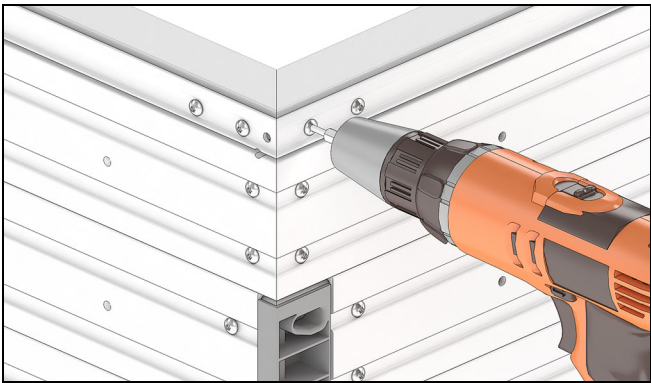

Figure 46
5. Tighten the jamb screws you loosened earlier. See Figure 46